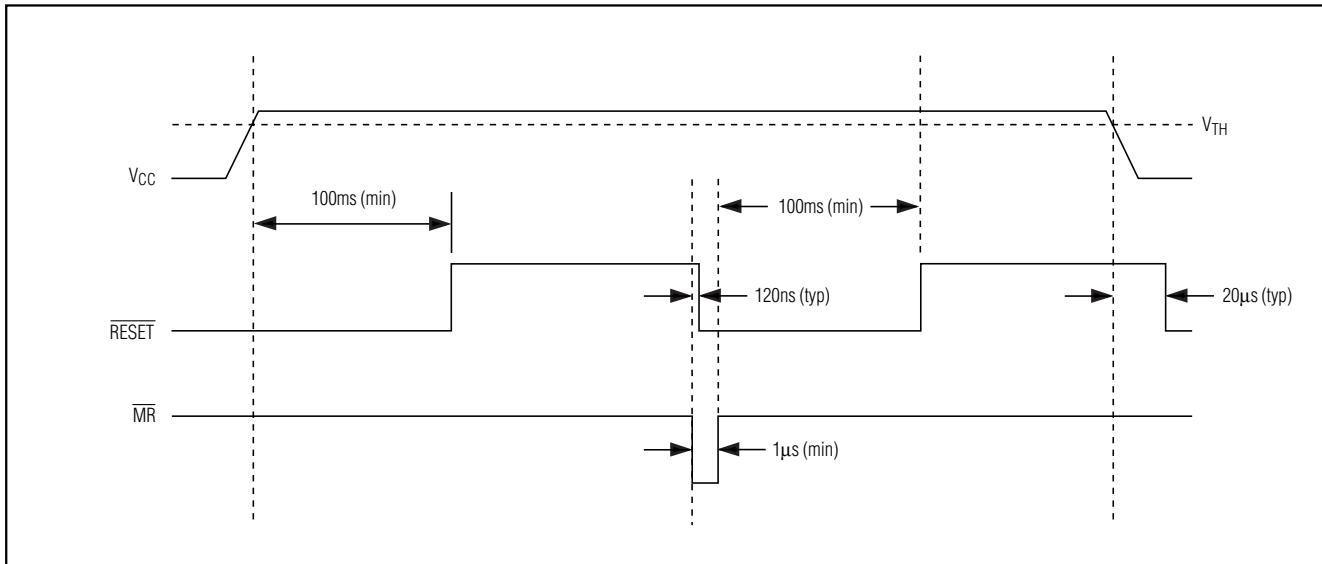

Figure 5. *RESET* Timing Relationship
falls below the preset threshold or when the manual reset input (MR) is asserted. The RESET output remains asserted for at least 100ms after VCC has risen above the reset threshold and MR is deasserted (Figure 5). For noisy environments, bypass VCC with a 500pF (min) capacitor to ensure correct operation.
Many μP-based products require manual reset capability to allow an operator or external logic circuitry to initiate a reset. The manual reset input (MR) can connect directly to a switch without an external pullup resistor or debouncing network. MR is internally pulled up to VCC and, therefore, can be left unconnected if unused. MR is designed to reject fast, negative-going transients (typically 100ns pulses), and it must be held low for a minimum of 1μs to assert the reset output (Figure 5). A 0.1μF capacitor from MR to ground provides additional noise immunity. After MR transitions from low to high, reset will remain asserted for the duration of the reset timeout period, at least 100ms.